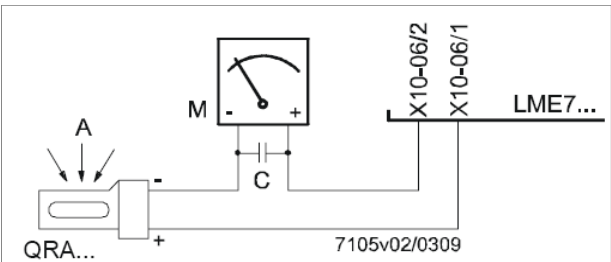

Fig. 5: Detection by photocell QRA..
3. Screw VD on with 2 M5 screws for each, max. 5 Nm/44 in.-lb., fig. 5/6.
- 2 Remove screws 1 ÷ 4 using the Allen key n. 3 and remove filter cover 5 in Fig. 5.